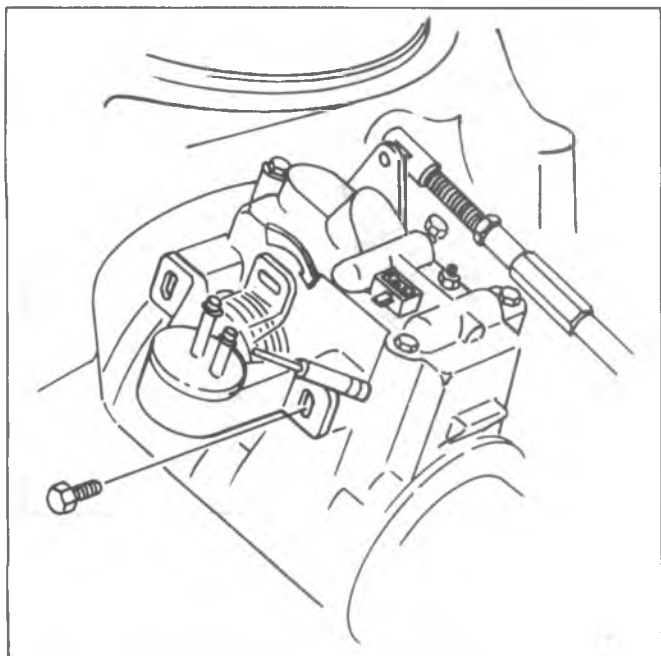

Fig. 6A6-13--Transmission Vacuum Regulator Valve Adjustment
5. Rotate vacuum regulator valve clockwise until throttle shaft pin contacts cam drive surface (fig. 6A6-13).